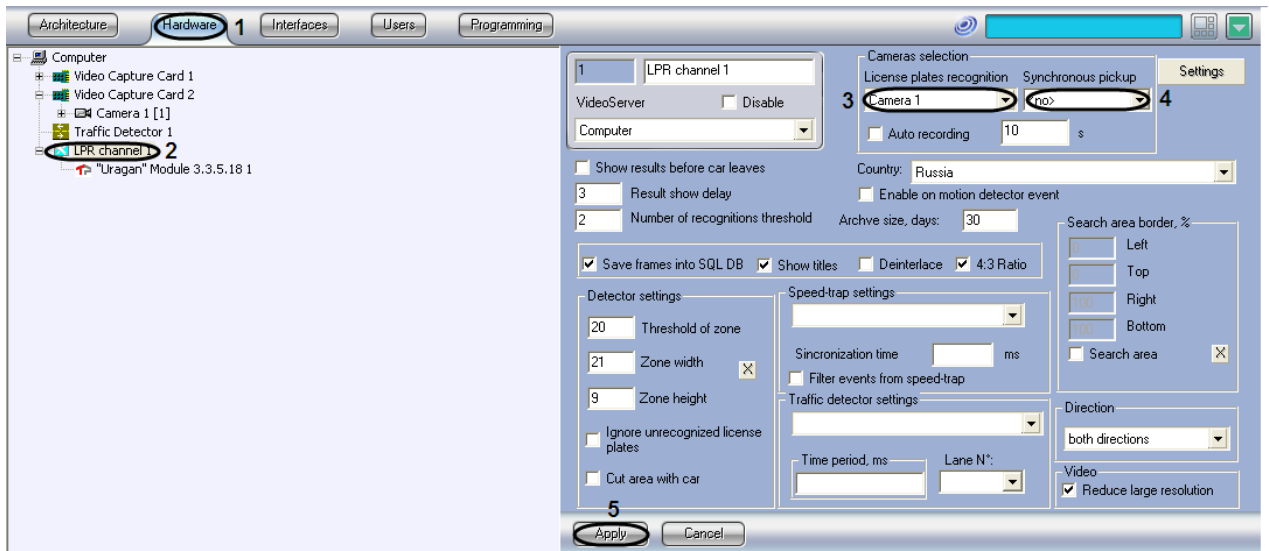

Fig. 7.2-5 Selecting the cameras objects for cooperative work with the LPR channel
2. Select the LPR channel, corresponding to the activated Auto-Uragan3.3.5.18, CARMEN-parking or CARMEN-Auto module, in the objects tree on the Hardware tab (see. «Program module activation, used for Plates identification»). The settings panel of the selected object will open on the right side of the window (Fig. 7.2-5).